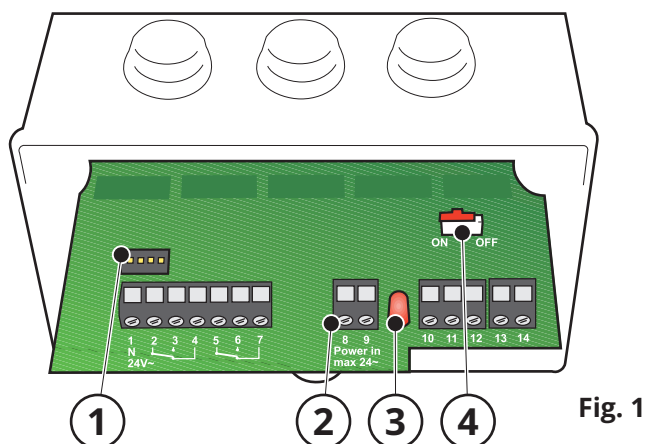

Fig. 1
Controlling time delay to evacuate remaining gases is built into the control unit (1, **Fig 1**). Time is adjustable from between 0-15 minutes.
To activate / deactivate timer adjust the switch (4, **Fig 1**). If timer is placed in **ON** mode this will enable adjustments of time delay on the switch panel (1) as illustrated below.